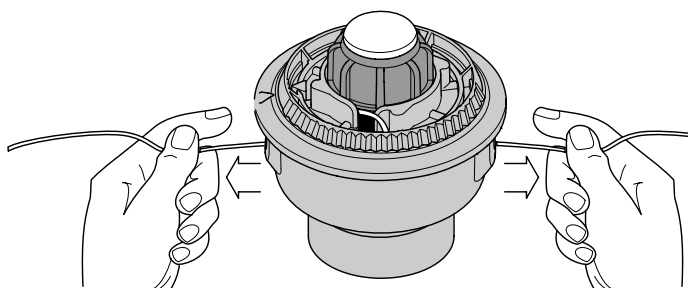

Fig. 51
9. If winding the line becomes difficult or if the line jams, pull the ends of the line from the spool (Fig. 51). Continue winding the inner reel counterclockwise.
If the SpeedSpool® does not release line correctly, pull the ends of the line firmly from the spool (Fig. 51). If this does not release the line, follow the *Cleaning the SpeedSpool®* instructions.